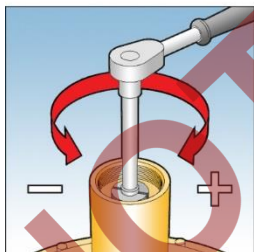

Fig. 4
3. For L.P. 50mm and 80mm unit insert 1/2" square socket extension piece into square hole, or flat blade screwdriver into slot in spring adjuster. See Fig. 4.